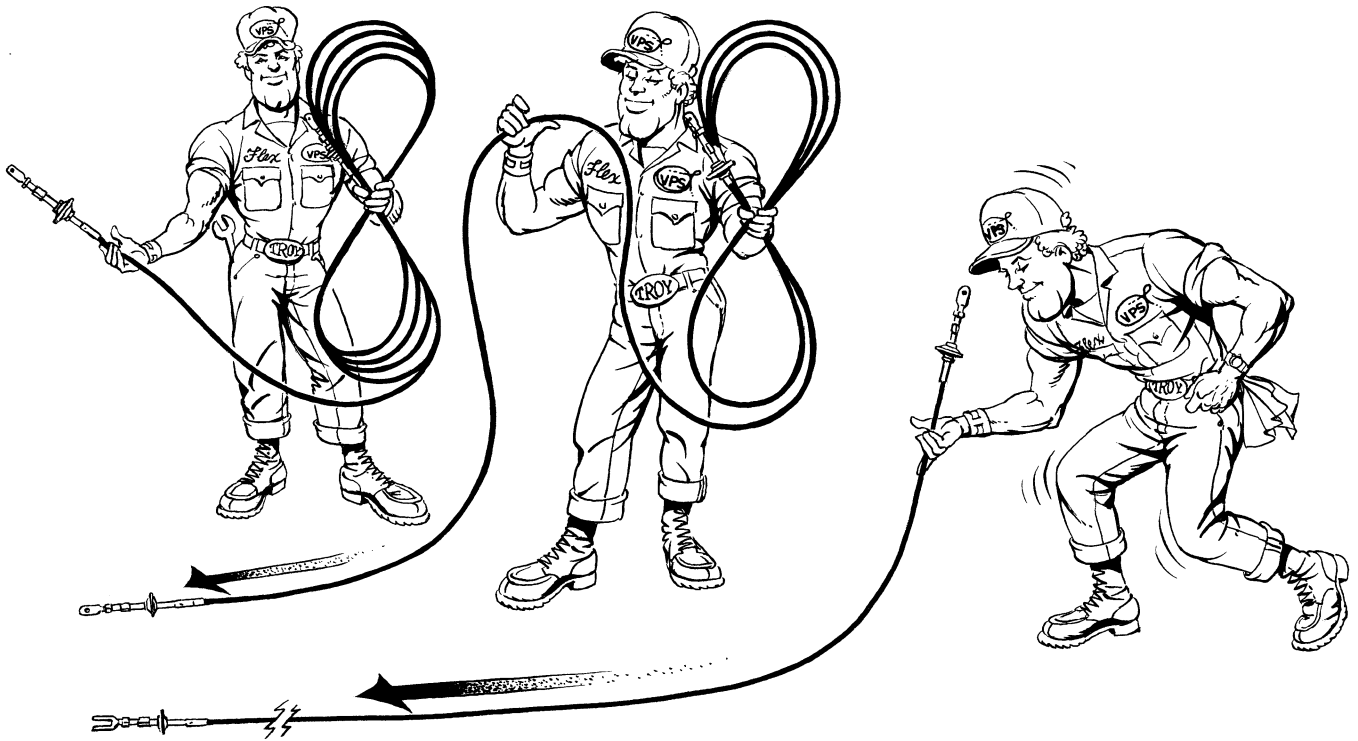

Figure 3
2. Starting with the end fitting nearest you, pay out the loops of the cable, one at a time until the cable is laying out straight. See Figure 3 below.